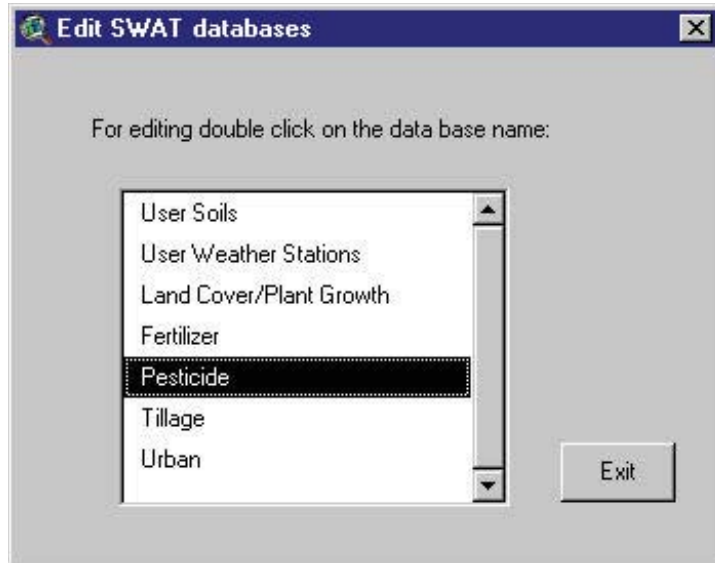

Figure 14.51
1. Double-click **Pesticide** on the list of databases (Figure 14.51).